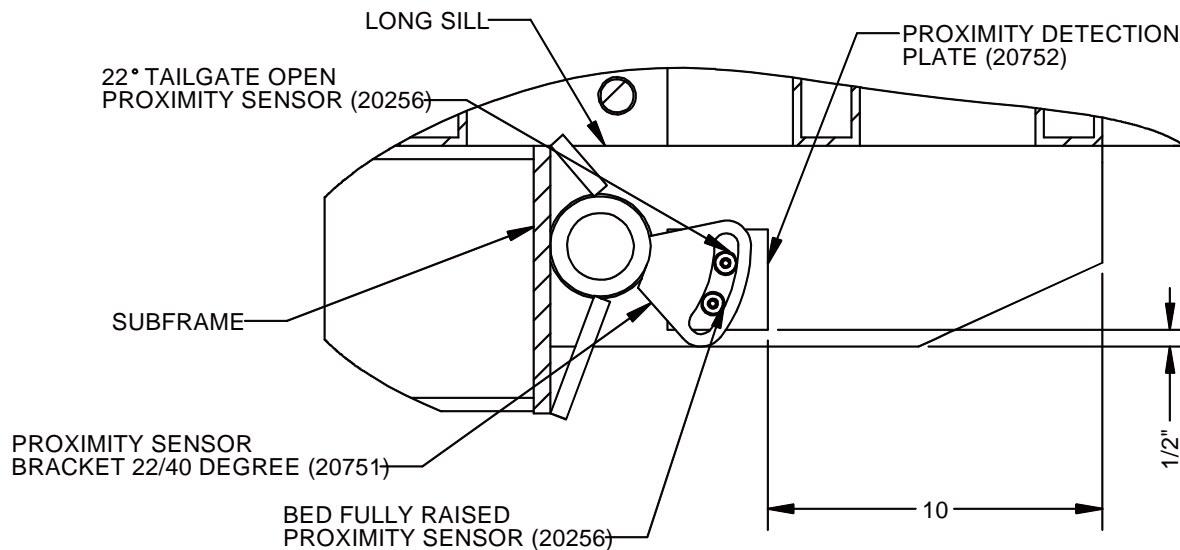

Figure 1 – Proximity Detection Plate Location
3. Weld the proximity detection plate (20752) on to the inside of the passenger side long sill of the dump body. Refer to Figure 1 for proper location of detection plate.